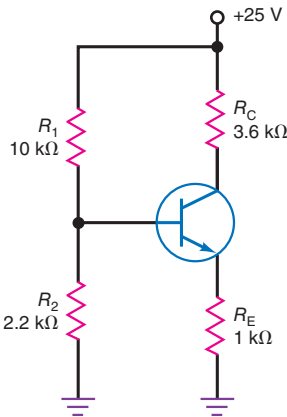

Figure 33-52
- 33.12 What is the emitter voltage in Fig. 33-52? The collector voltage?